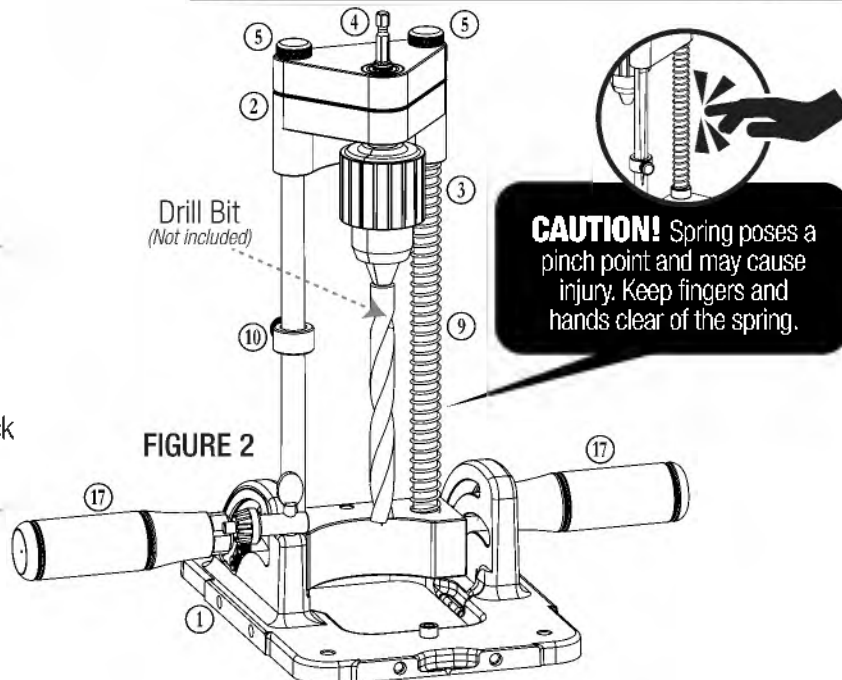

FIGURE 2
1. Insert your desired drill bit (up to 2-1/2") into the Chuck and tighten it down using the Chuck Key. **FIGURE 2.**